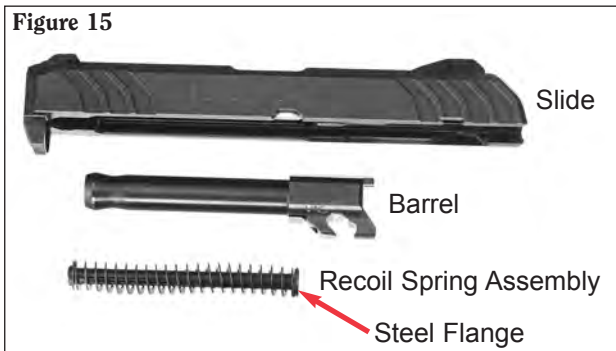

Figure 14
10. The pistol is now disassembled for cleaning (see Figure 14).